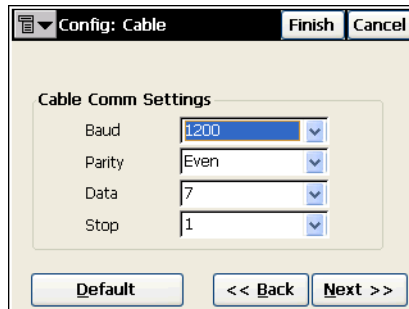

Figure 3-49. Config: Cable
5. Select the communication settings of the cable connection in the **Config: Cable** screen: Baud (baud rate), Parity, Data (number of the data bits), and Stop (number of the stop bits) and tap the **Next** button (Figure 3-49).